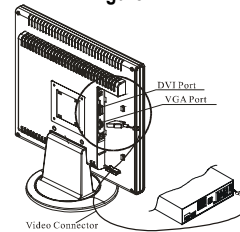

Figure 1-5
2. Connect one end of the signal cable to the LCD Monitor's VGA port or DVI port. (See Fig 1-5)